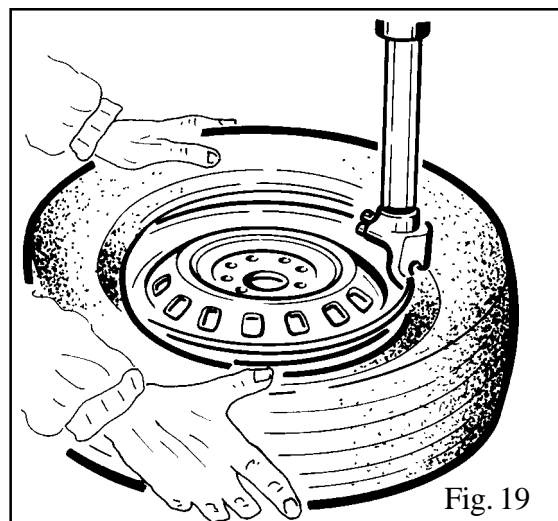

Fig. 19
Keeping the tyre bead pressed down into the wheel rim channel with your hands, press down on the pedal (Z) to rotate the turntable clockwise. Continue until you have covered the entire circumference of the wheel rim (Fig. 19).